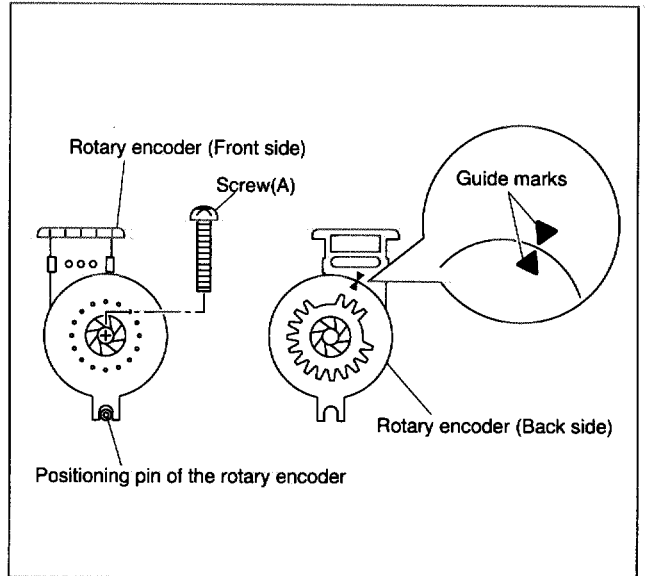
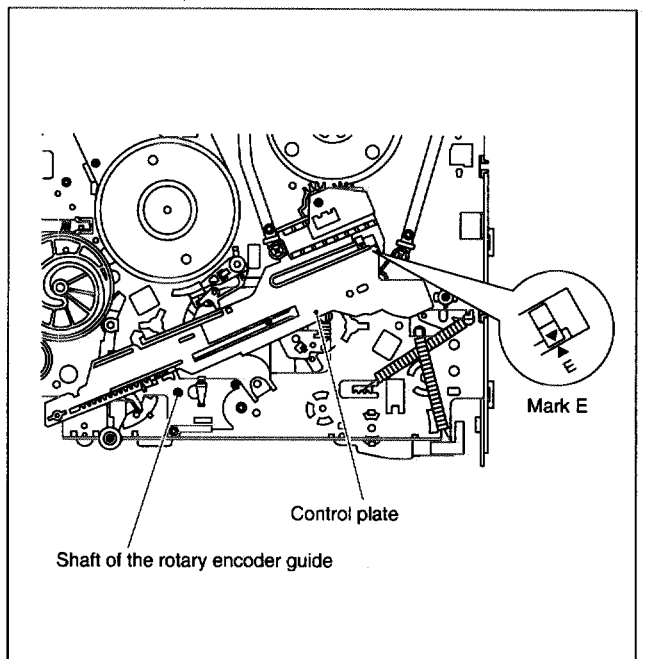

Fig. 2-2-20
Fig. 2-2-21
- (1) Remove the screw (A) and remove the rotary encoder by pulling it up. (See Fig. 2-2-20.)
- (1) Make sure that the mark E of the control plate is in alignment with the mark ▼ of the loading arm gear shaft and bring the guide marks on the rotary encoder into alignment as indicated in Fig.2-2-20. (See Fig. 2-2-20 and Fig. 2-2-21.)
- (2) Turn over the rotary encoder with its guide marks kept in alignment and install it by fitting on the shaft of the rotary encoder guide and the positioning pin.
- (3) Tighten the screw (A) to complete the installation.